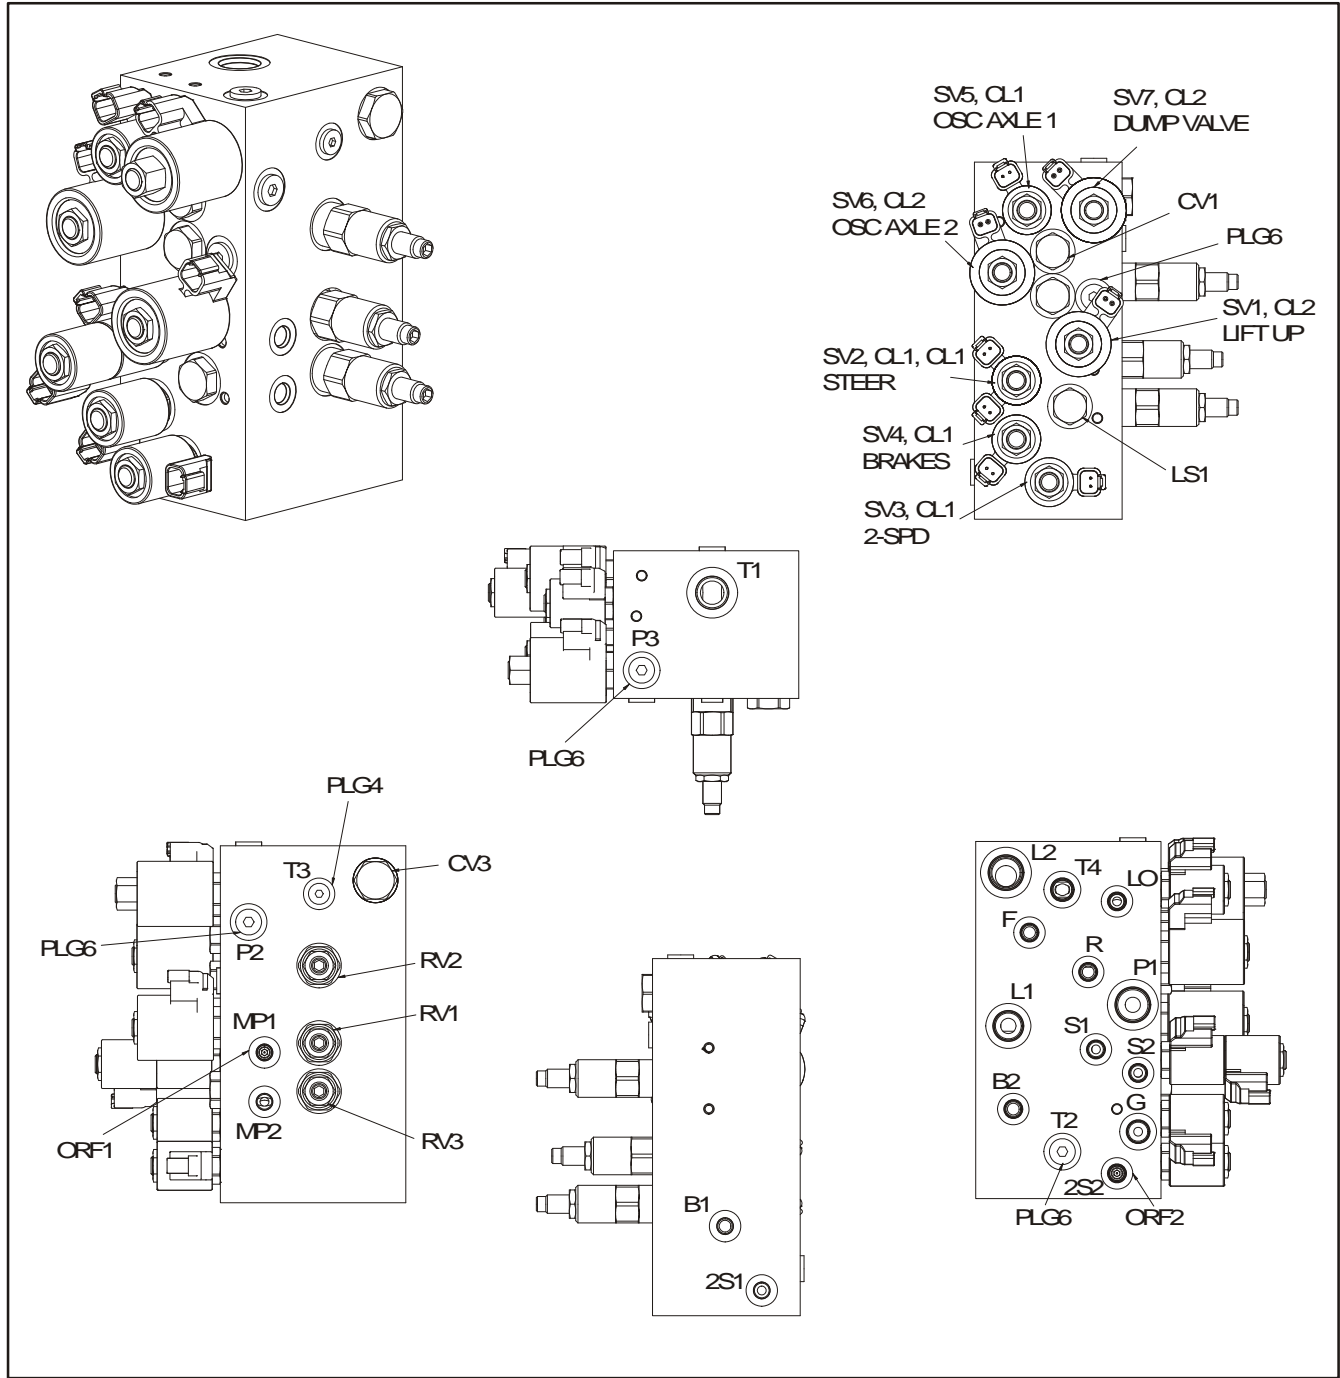

Figure 4-16. Main Valve Block
- Refer to Figure 4-16., Main Valve Block.